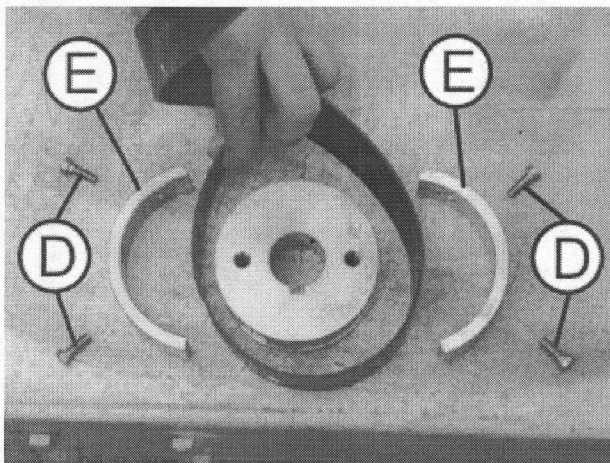

Fig. 080
9. Loosen the 4 clamping plates (E) with the screws (D) and install new lifting belt set (5.174-015) (Fig. 080).
- During assembly, ensure the correct coiling direction (Fig. 080).
- Make sure that the grooves of the lifting belts are on the inner side (Fig. 080).
- Make sure that the clamping plates (D) are mounted with the rounded end at the belt outlet (Fig. 080).